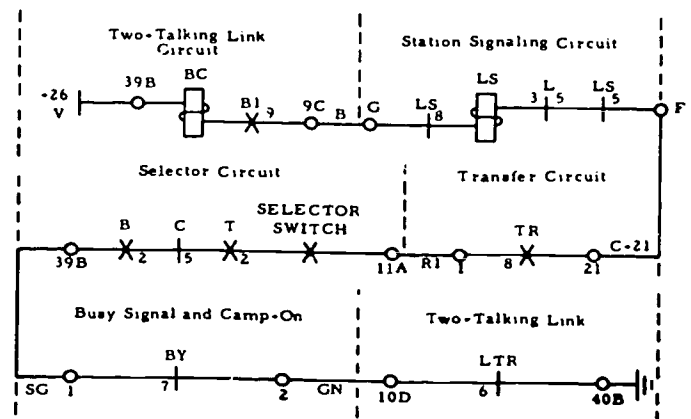

Figure 2-18. Relay BC of 222A KTU operating circuit line diagram.
- (1) Relay BC operates. Its operating circuit is the result of the C relay being released and the T relay remaining operated. Figure 2-18 illustrates the complete circuit. It is evident during your tracing of this circuit on foldout 3 that several optional methods are possible for completing this circuit. For example, ground potential can be connected directly to terminal 39B of the selector circuit, or the potential can be provided under the control of relay LTR in the link circuit and BY in the busy signal and control circuit. We are showing the latter procedure. Regardless of the connecting method, during the slow-to-release period of